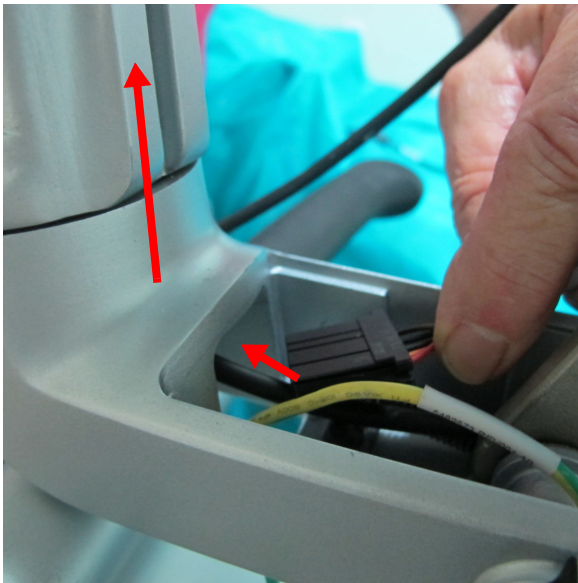

Figure 8-122 Threading the Display to OPIO Cable
- 3.) Thread the "display to OPIO cable" via the base of the lower articulated arm aperture upwards towards the monitor as shown in Figure 8-122 below and Figure 8-123 below.